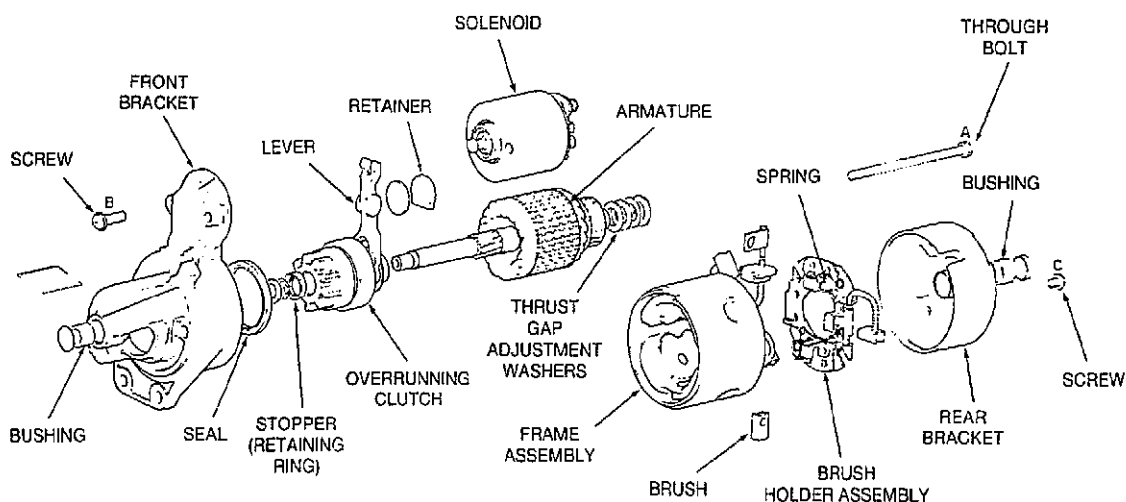

FIGURE 1. STARTER MOTOR
1. Remove "M" terminal nut and wire lead from solenoid (Figure 1).